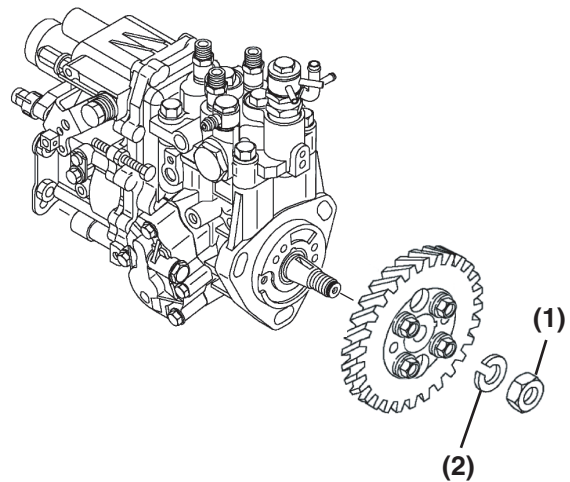

Figure 7-22
5. Reinstall the fuel injection pump drive gear lock washer **(Figure 7-22, (2))** and nut **(Figure 7-22, (1))**. Do not lubricate the threads of the nut or shaft. Hold the crankshaft pulley bolt with a socket wrench and tighten the drive gear nut to the specified torque. See *Special Torque Chart* on page 7-8.